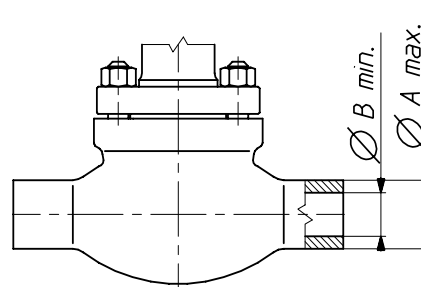
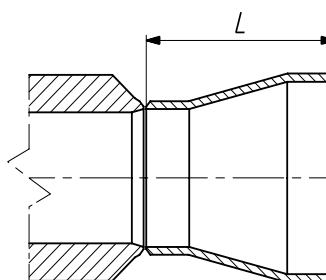

Fig. 6. Dimension of butt welding ends executed as cast
Fig. 7. Reduction stub
-) - execution with reduction stubs as per Fig. 7.
It is allowed to execute connections for other dimensions of pipes. Should pipe dimensions fall within the range $\varnothing B \text{ min} / \varnothing A \text{ max}$. (Fig. 6, Table 20), connection can be executed as cast. Otherwise reduction stub is to be welded to body end, which shall result in extension of housing by L or 2L size (Fig.7, Tabel 20). Other connection dimensions are allowed upon consulting with manufacturer.